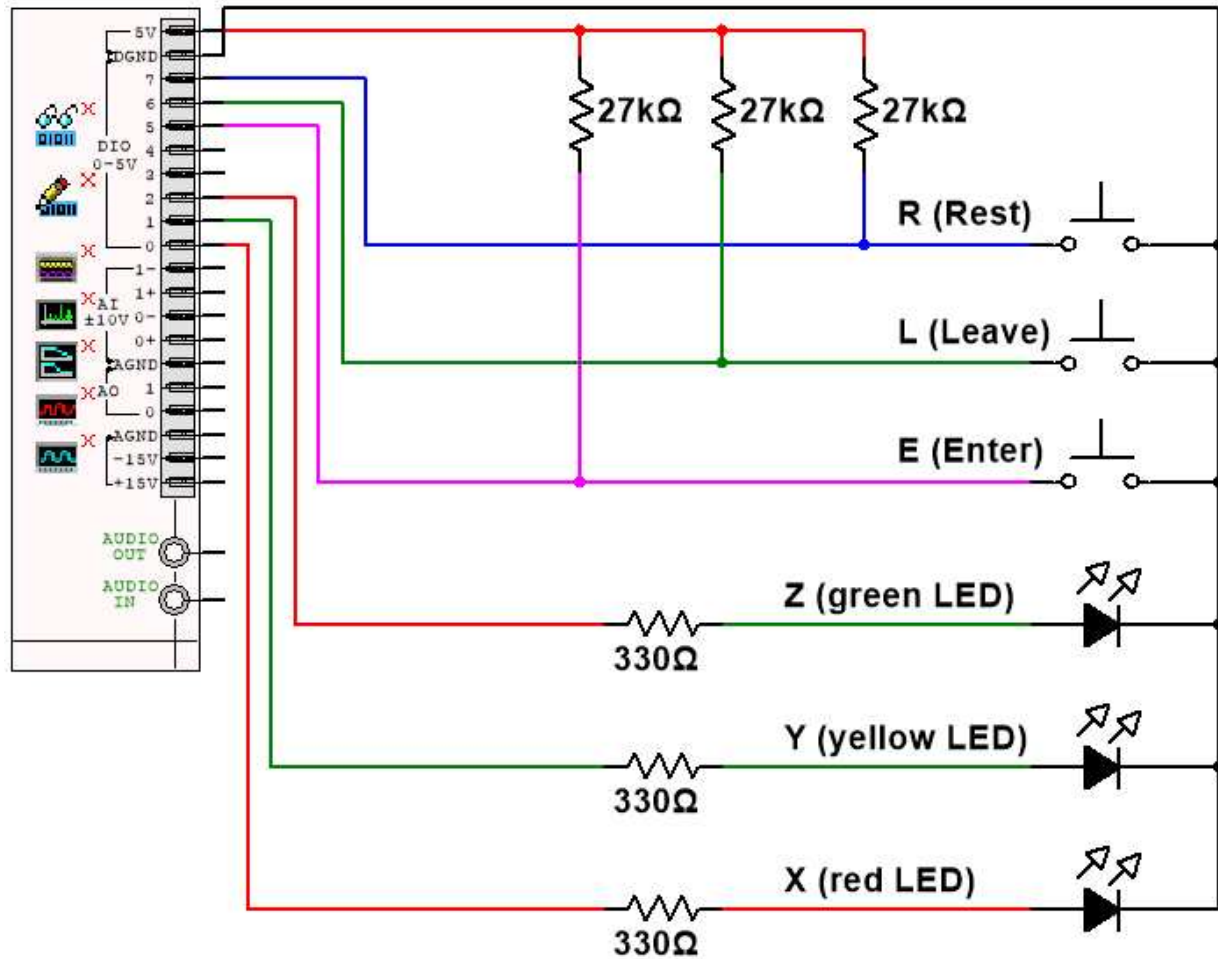

Figure 1: myDAQ connections to input switches and output LEDs.
2. Connect the input switches and output LEDs as indicated in Figure 1. Note that pressing a given button sets the signal to a logic high state, while the corresponding logic level at the myDAQ connector is set to a logic low state. For example, when the user presses the Leave button, the value of L is logic high while the corresponding logic level at DIO 6 is low.